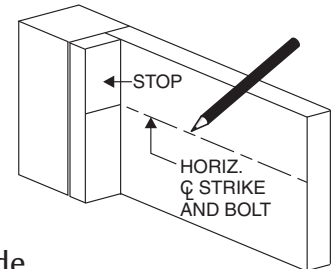

Figure 1
1. Mark stop with centerline of strike and strike mounting holes. (Figure 1)
2. Transfer horizontal centerline of strike to inside of door at hinge and latch side. (Figure 1)